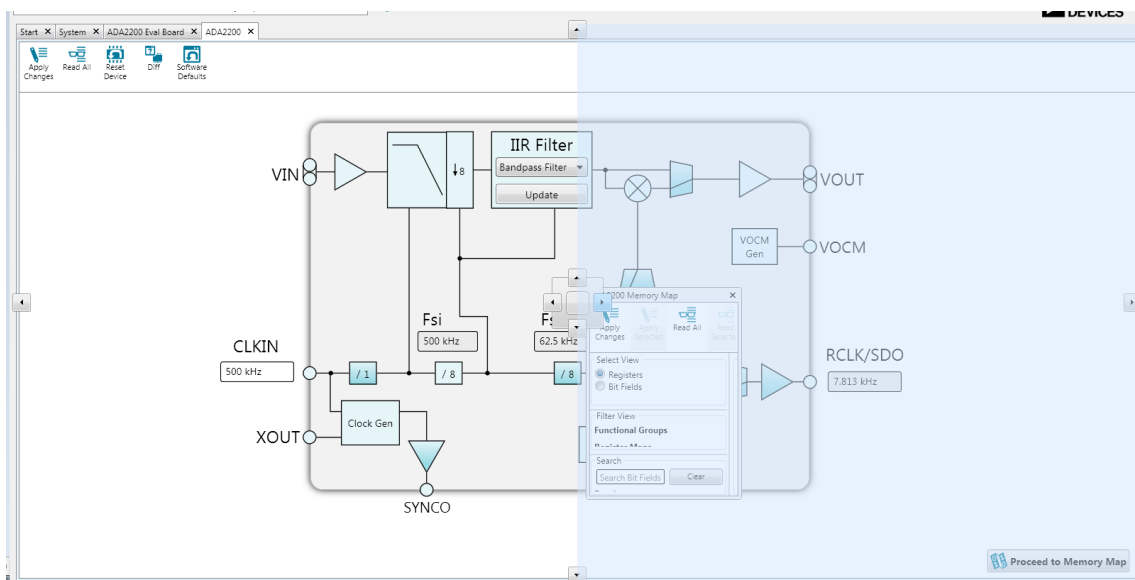

Figure 2.6: Moving Tabs
3. Drag the tab to the arrow associated with the new location for the tab and release the mouse. For example to place a view to the right of the other tabs, drag the selected tab over the right arrow in the centre of the other tab and release the mouse, Figure 2.6.